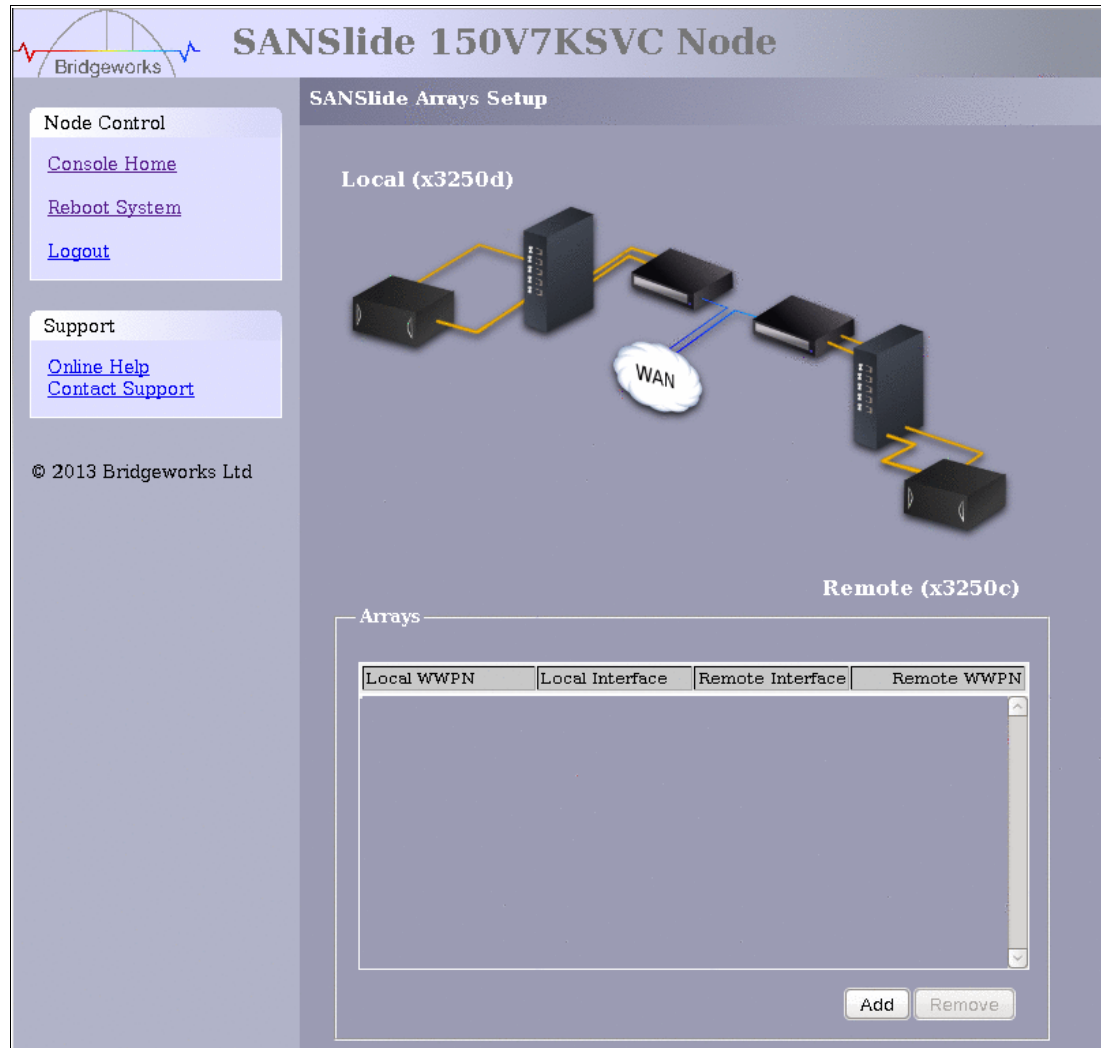

Figure 2-15 SANSlide 150 array setup
2. In the SANSlide Arrays Setup panel (Figure 2-15), click **Add** to be prompted for a new array (Figure 2-16 on page 24).